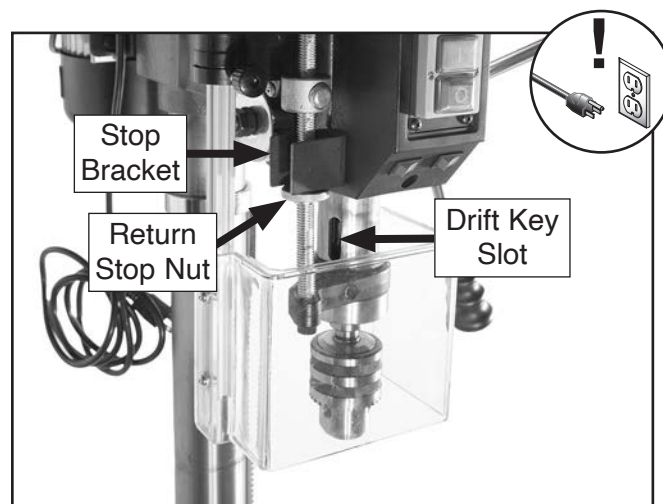

Figure 33. Feed return stop nut adjusted to keep drift key slot exposed (T33960 shown).
2. Rotate downfeed handles until drift key slot is exposed in side of quill (see **Figure 33**).
3. Adjust feed return stop nut shown in **Figure 33** so it touches stop bracket. Quill should not return up into head casting when depth stop is adjusted this way.